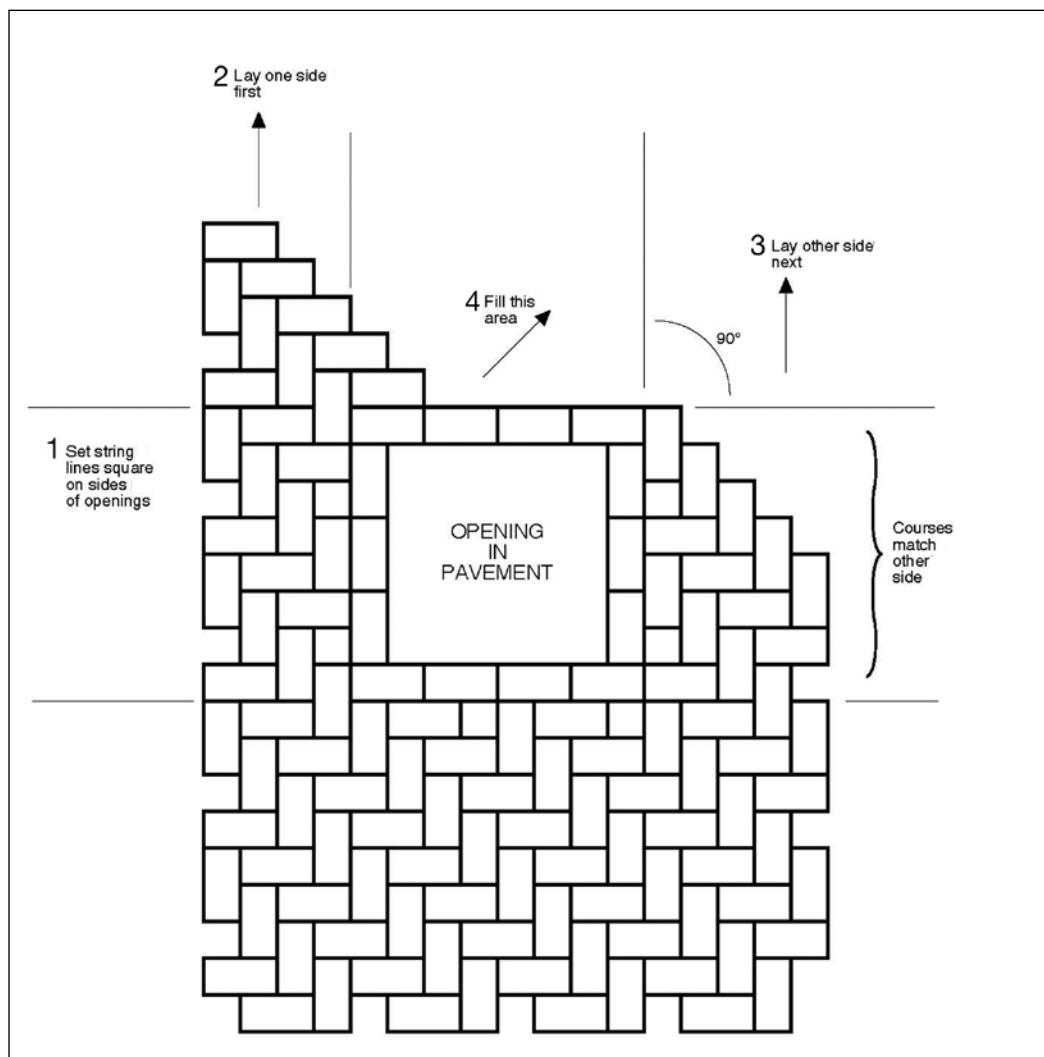

Figure 1. Paving around smaller openings
In some instances, obstruction to pave around is encountered as the field of pavers has already started and the laying face progresses forward. Figure 1 shows the process for paving around smaller openings such as tree wells, manholes and other utility structures using a herringbone pattern. The procedure is as follows:
- Fill with pavers on the back side and create a 45° pyramidal laying face as shown in Figure 1.
As with smaller obstructions, when the back (north) side of the pool is reached, the pavers are filled in by creating a 45° pyramidal-shaped laying face as shown in Figure 1.